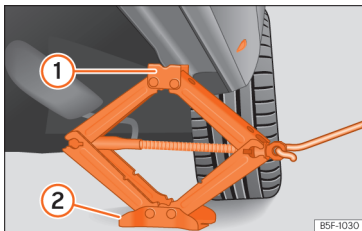

Fig. 255 Crossbar: mounting the jack on the vehicle.
- Turn the jack crank handle, located below the strut support point, to raise it until the tab ① >>> Fig. 255 is below the housing that is provided.
- Align the jack so that the tab ① "grips" onto the housing provided on the cross member and the mobile base ② is resting on the ground. The base plate ② should fall vertically with respect to the support point ①.